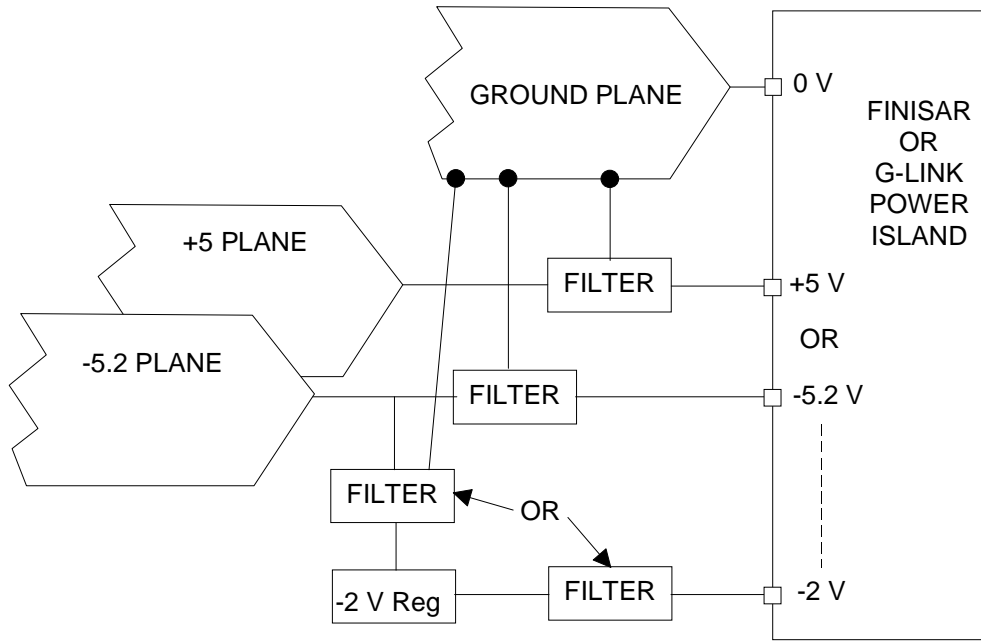

Figure 3
- A. Isolate the +5 V voltage needed for Finisar optics from any other +5 V power such as the +5 V power needed for ECL/TTL translators or TTL/TTL buffers for received or transmitted G-Link data and data strobes. Figure 3 illustrates the connection for this or other voltages.
- A. If ECL G-Link receivers are used, use a separate -2.0 V regulator for each receiver circuit. (see Figure 3)
- A. If ECL G-Link drivers are used, use a separate -2.0 V regulator for each driver circuit. (see Figure 3)